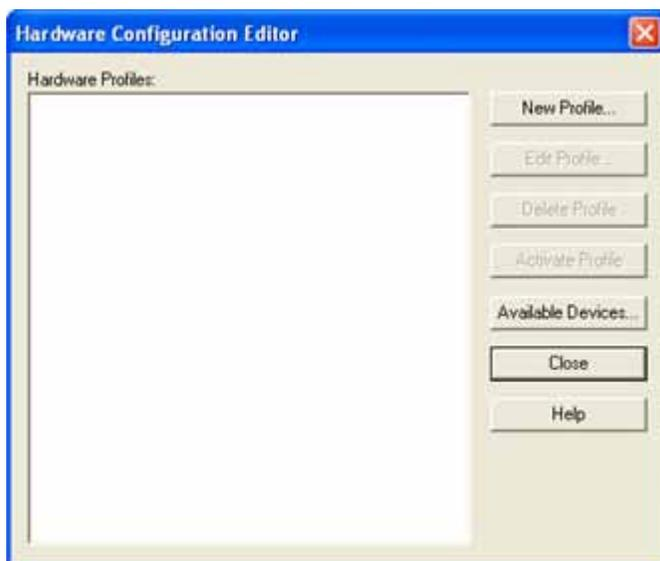

Figure 2-1 Hardware Configuration Editor dialog
2. In the **Hardware Configuration Editor** dialog (Figure 2-1), click **New Profile**.